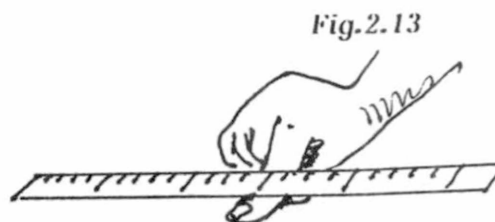

Fig.2.13
1. Take a scale. Try to balance it over the tip of your finger, as shown in Fig.2.13.